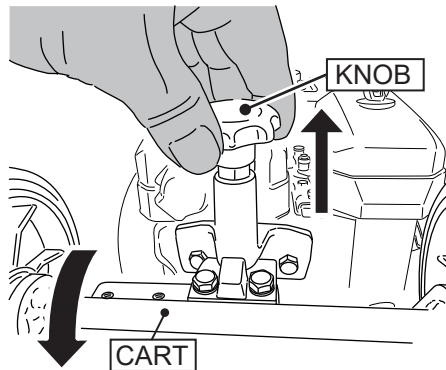

Fig.7
1. Pull up the knob of cart stopper, then revolve the cart until contacting the ground. (fig. 7)